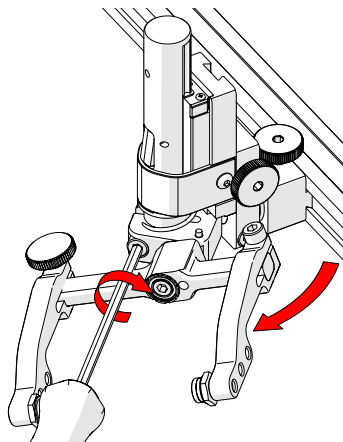

Fig. 52 - Rotate and tighten
3. Tighten the transverse adjustment screw (*Fig. 52*).